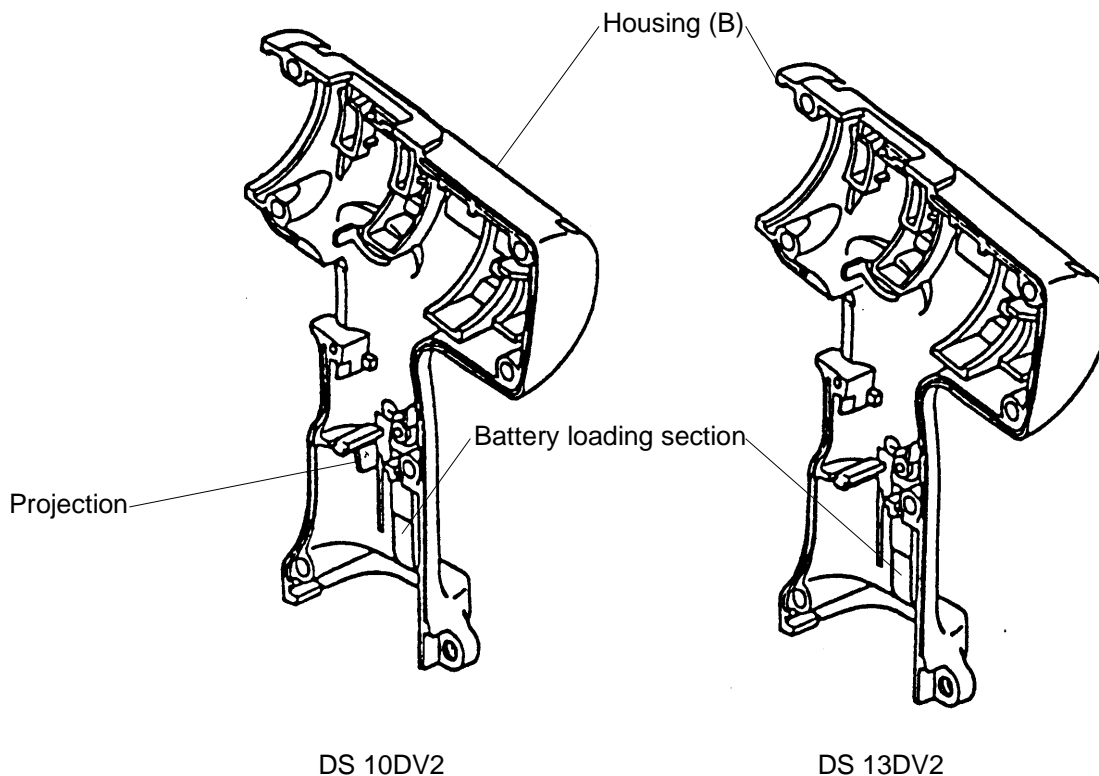

Fig. 19
- (b) While Housings (B) [31] of DS 13DV2 and DS 10DV2 are of the same external shape, there is a difference in that the battery loading section at the DS 10DV2 Housing (B) [31] is formed with a projection, with no such projection at the battery loading section of the DS 13DV2 Housing. Exercise care when carrying out assembly. (See Fig. 19)